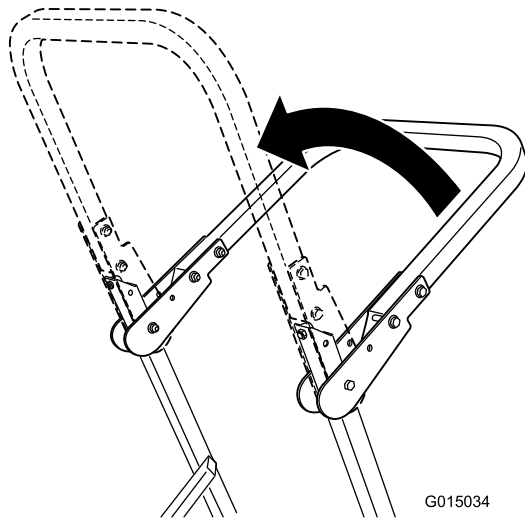

Figure 7
2. Raise the roll bar to the upright position (Figure 7).